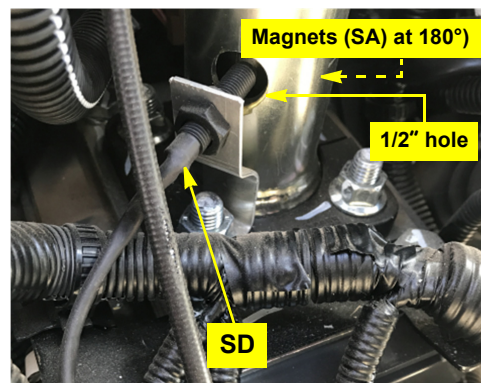

Figure 3b: Install magnets, bracket and sensor
- b. Remove the mount bracket then drill a 1/2" hole in the shield (Figure 3b).
- d. Using the two-part epoxy SB, attach one half of the magnet to the inner steering shaft. Turn the shaft 180° and attach the other half of the magnet to the steering shaft (Figure 3b).
- e. Reinstall bracket SC and align the switch hole with the magnets hole (Figure 3b).
Install switch SD in SC and adjust it so that the sensor face is 1/8" to 1/4" from the magnets (Figure 3b). You will connect SD's cable later.